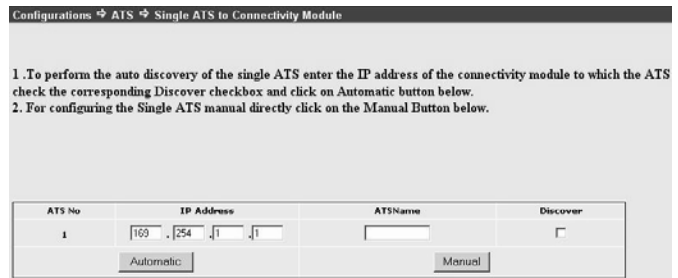

Figure 11: Single ATS configuration
6. The Configurations > ATS screen appears. See Figure 11. The Single ATS communication architecture is shown. Select either **Automatic** or **Manual** configuration.